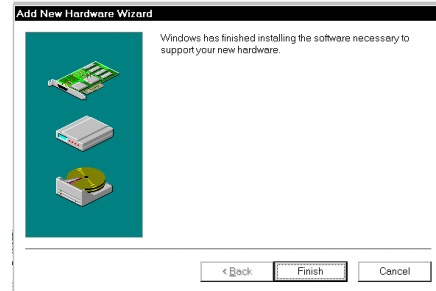

Figure 27, Software Installation Complete
8. Click Next. When prompted click Finish. (Figure 27)